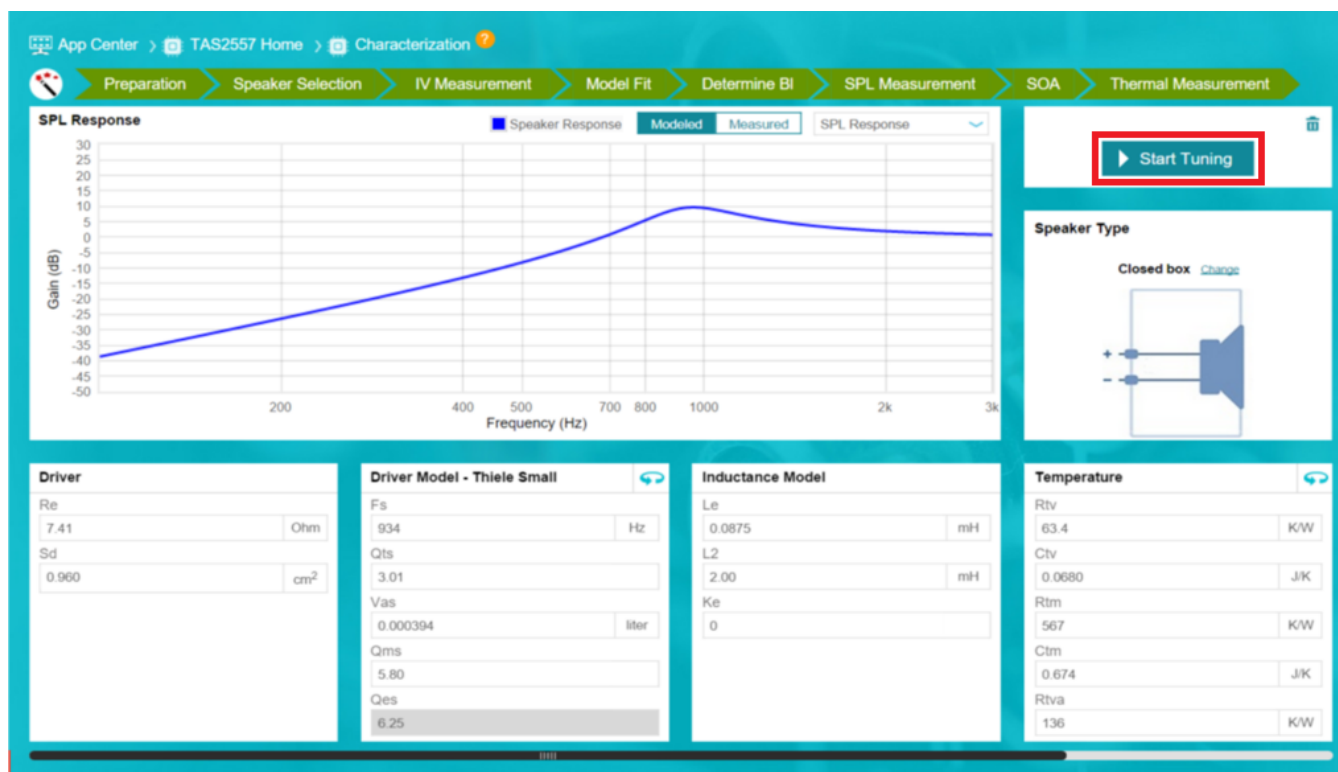

Figure 13. Speaker Characterization Results
- Click on the Start Tuning icon after completing the speaker characterization process. This action directs users to the Tuning and Audio processing page and loads all of the speaker parameters to the TAS25xx (see Figure 13).